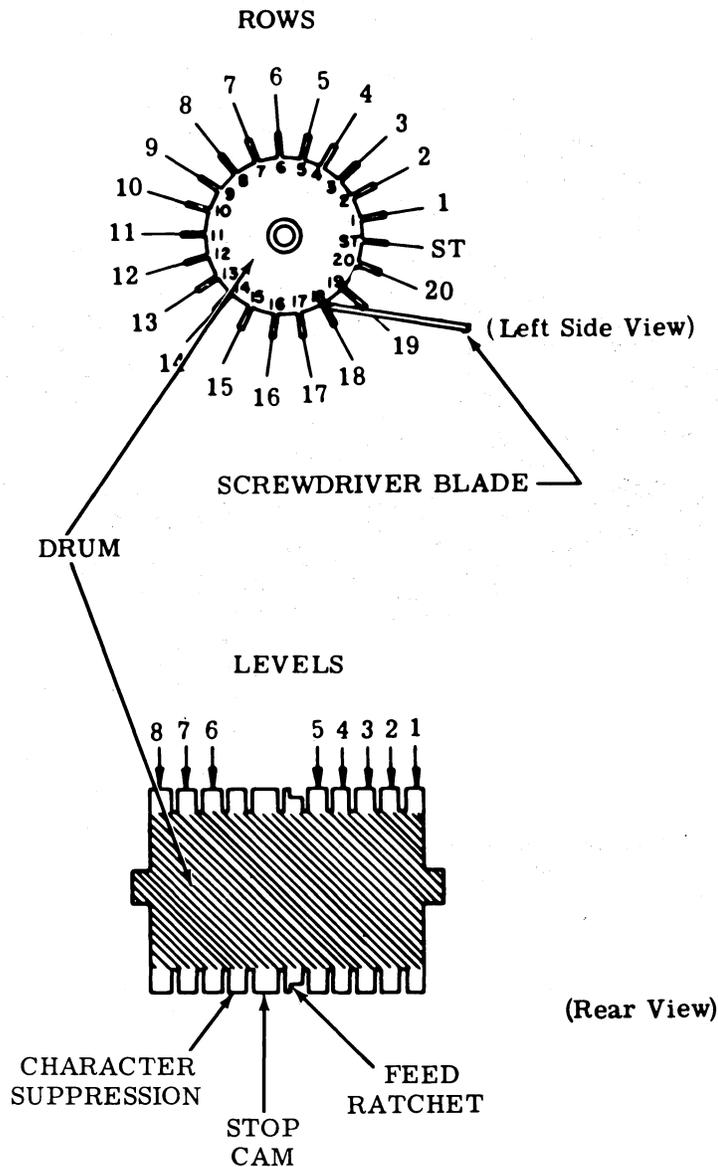

Figure 6 - Answer-Back Drum
- (c) A particular character is coded by either retaining or removing tines within a row, as illustrated in Figure 6. A tine may be removed by either of the two following methods:
Method 1: Place the end of a screwdriver blade at the base of a tine in the row previously coded. Press the side of the blade against the top of the unwanted tine until the tine breaks off. Figure 6 illustrates this method — pressure applied to base of row no. 18 and against top of adjacent tine being removed from row no. 19.